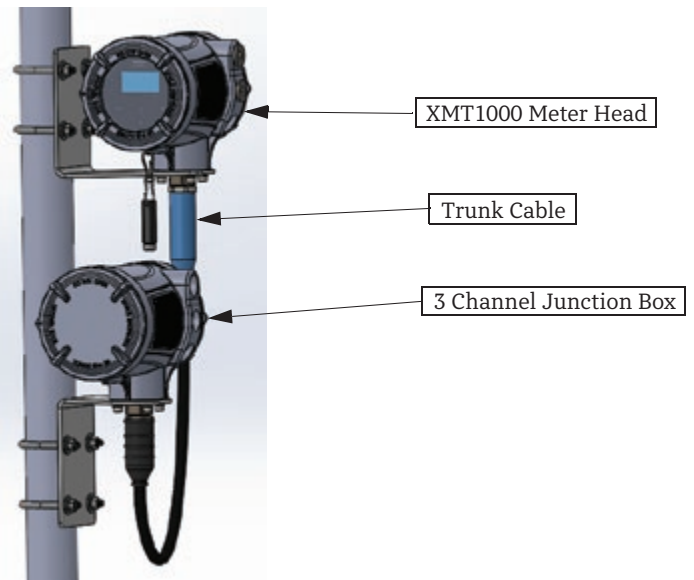

Figure 44: XMT1000 Trunk cable placement
1. Thread MCX end of 6 conductor cable trunk into XMT1000 meter head and the BNC connector end of the cable into the 3 channel Junction box as seen in Figure 44.